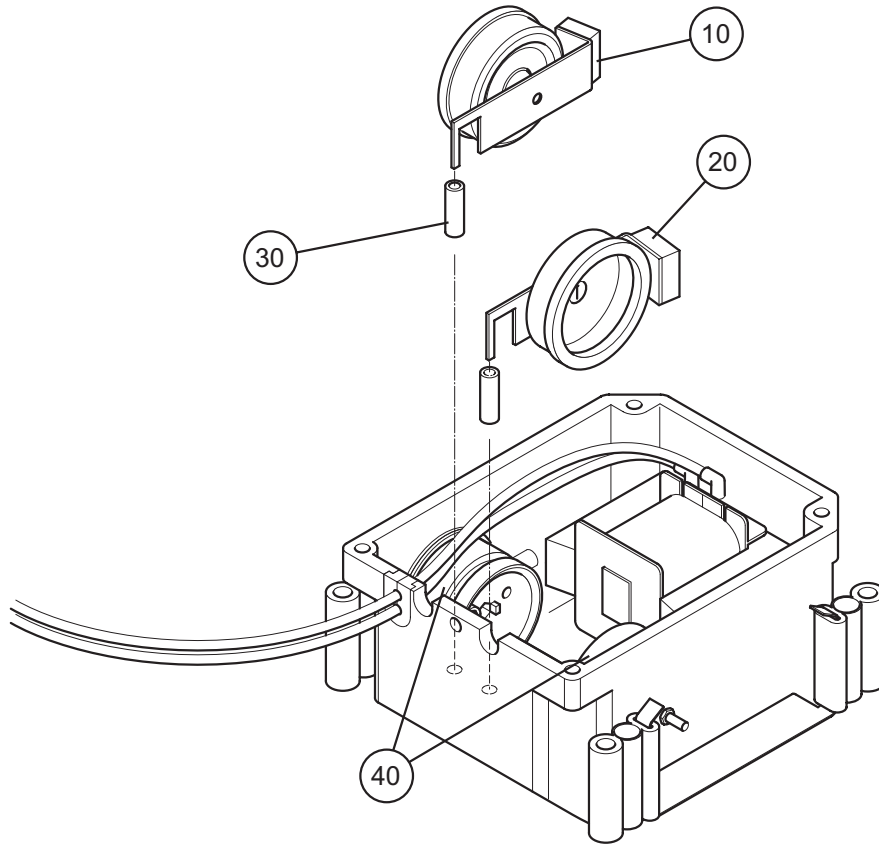

Figure 11 - Bellows Armature Assembly and Pivots
- 23.2 Using long nosed pliers, extract the armature blade, part of bellows armature assembly (Fig 11, Item 10 or 20) from the armature pivot (Fig 11, Item 30)
- 23.3 Unclip the bellows, part of bellows armature assembly from the valve body (Fig 11, Item 40) and lift the bellows armature assembly clear of the compressor.
- 24.3 Use a sharp, pointed tool and carefully extract the pivot (Fig 11, Item 30) from the hole in the compressor casing.
- 25.2 Unclip the bellows, part of bellows armature assembly from the valve body (Refer to Page 20, Fig 11, Items 10 or 20 and 40).